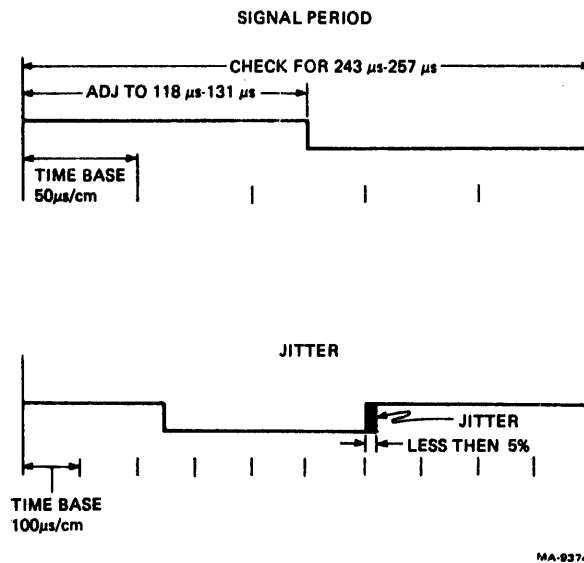

Figure 7-18 Capstan Speed Adjustment
3. Check that the Tach Phase (1 or 2) signal is at a 250 μ s period. The limits are 243 μ s to 257 μ s, in both forward and reverse (Figure 7-18).
4. Check the jitter on the leading edge of the signal (Figure 7-18). This is the same edge that the scope is triggered from. The jitter should be less than 12.5 μ s +5 percent. If all capstan adjustments are good and jitter is more than 12.5 μ s replace the capstan.